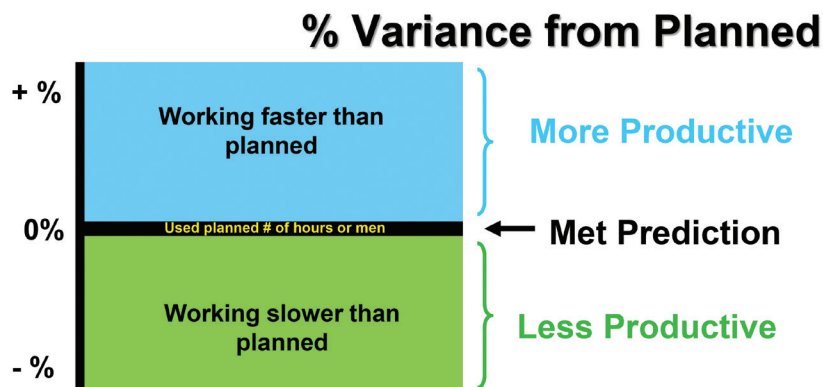

Figure 1
With a plan for the work, you can now measure against a reference point (your WBS). That measurement for productivity is explained in Figure 1. If you work to the plan and use the same number of hours you have planned, you'll be 'on' the 0 percent
- The second flag is that the Productivity Differential is below the 0 line / reference point. This means, per Figure 1, that they're working slower than planned.